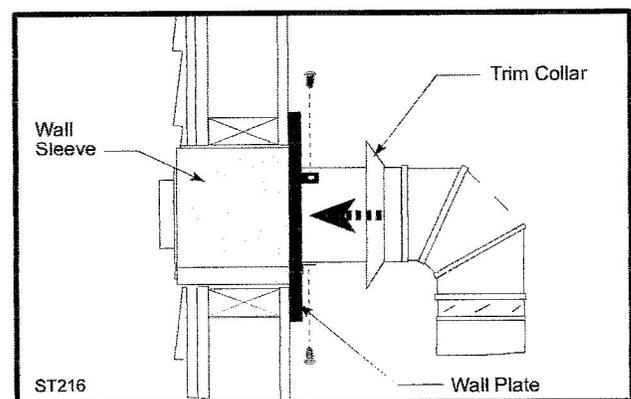

Fig. 33 Install the horizontal pipe and wall plate parts.
9. Seal the ends and connect the horizontal pipe to the elbow. Fasten the wall plate to the pipe with three sheet metal screws. Slide the trim collar up against the wall plate to cover the screws. (Fig. 33)